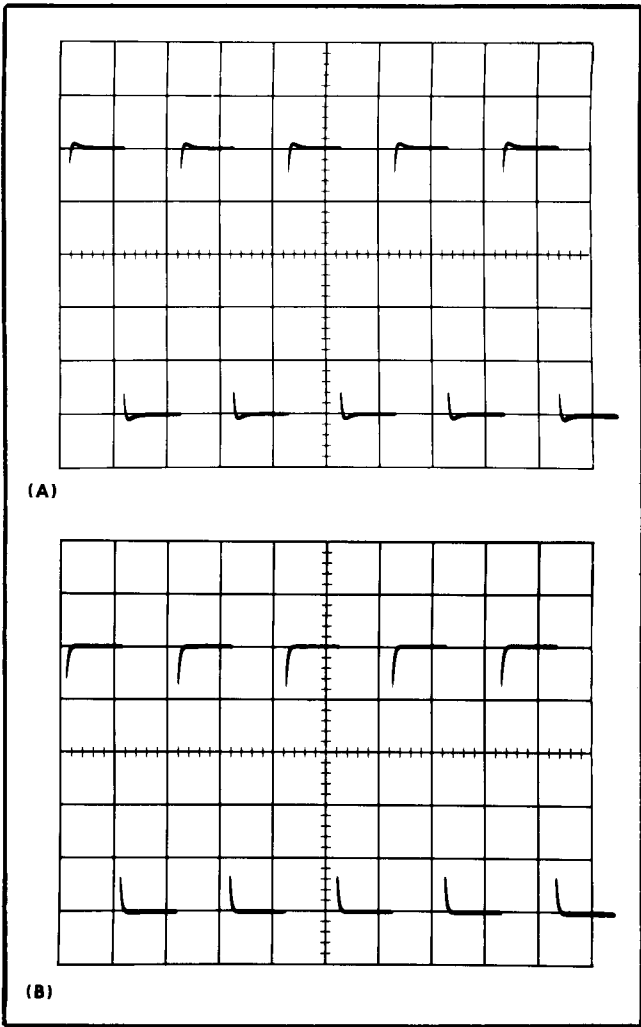

Fig. 5-28. Typical waveforms showing (A) and (B) C205B mis-adjusted and (C) C205B correctly adjusted.
- f. ADJUST—C205B, C207B and C209B (see Fig. 5-20) for the best flat bottom on the square waves, as shown in Fig. 5-28.